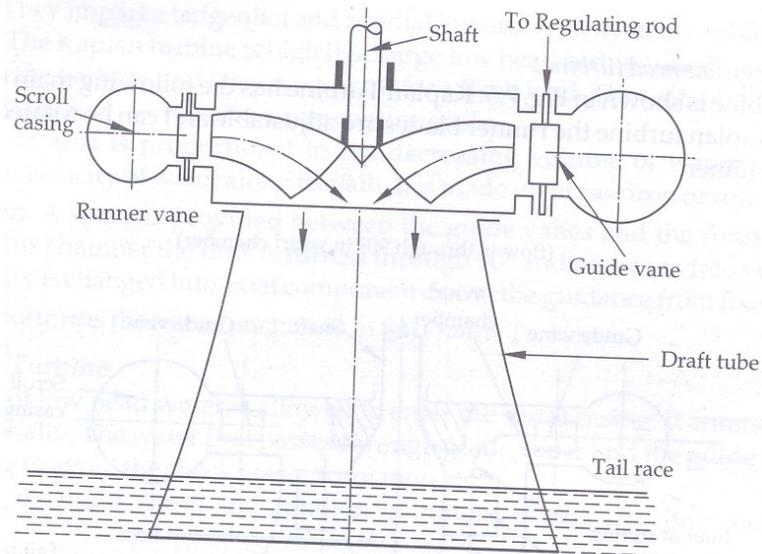

Fig. 7.3 Francis Turbine
**Working of a Francis Turbine:** The working of a Francis turbine is shown in Fig. 7.3. A Francis turbine is a mixed flow turbine in which the water enters at the circumference of the runner and travels towards the axis of the runner. Finally it comes out axially along the shaft.